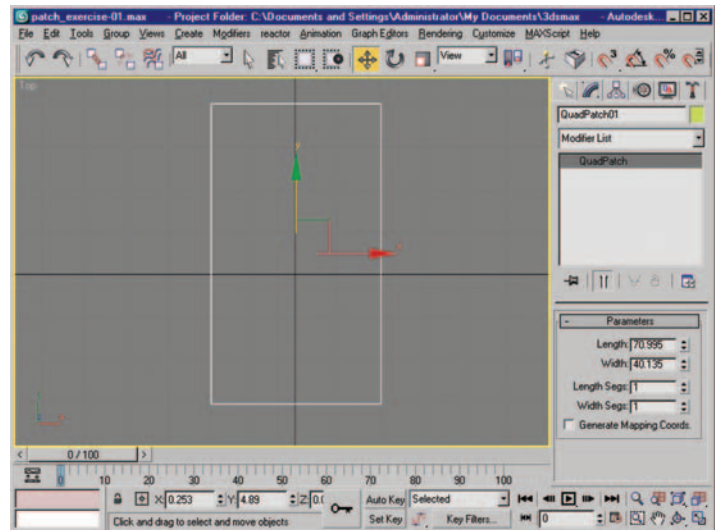

Figure 2.24 Initial Quad patch in top viewport. Segments set to 1, 1.
2. In the top viewport, create a rectangular shape with the approximate proportions of a PC mouse. For this exercise we are going to leave the Length and Width segments under Parameters at 1. Leaving this value at 1 will give us four vertices to use to manipulate our Bezier handles. Adding more segments would create more points, each point with its own set of Bezier; with more segments/points and Bezier comes more opportunity to make a wavy or messy mesh. Figure 2.24 shows the Quad patch in the top viewport. Experiment; as you get more adept at using patches, you will find that more points may be ideal for creating more complicated models.